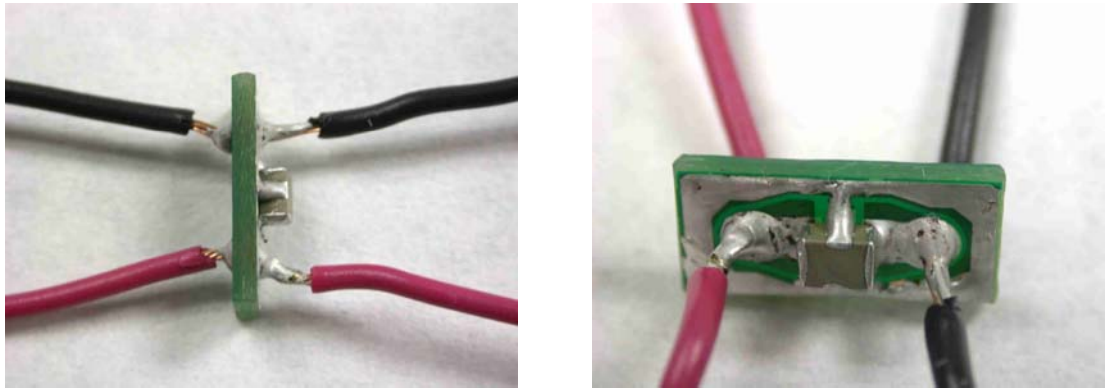
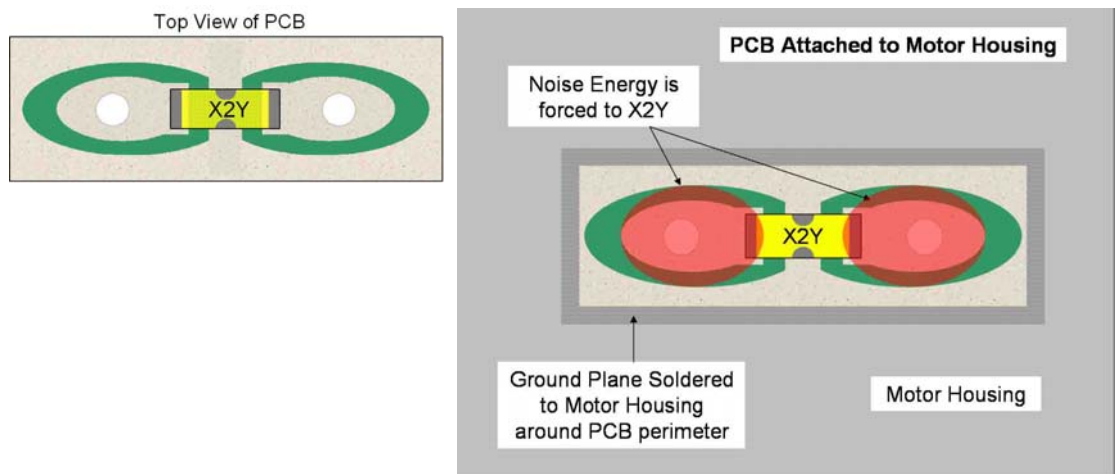

Figure 17. Power leads should go “thru” PCB.
Figure 18. When power leads are attached “thru” the PCB, noise energy is forced to the X2Y® component.
- iii. Power leads should be connected to X2Y® “thru” the brush card or PCB to prevent noise from bypassing the component (Figure 17). When the power leads are attached “thru” the PCB and the PCB is attach to the motor housing as in Figure 18, the noise energy is forced into the X2Y® component.